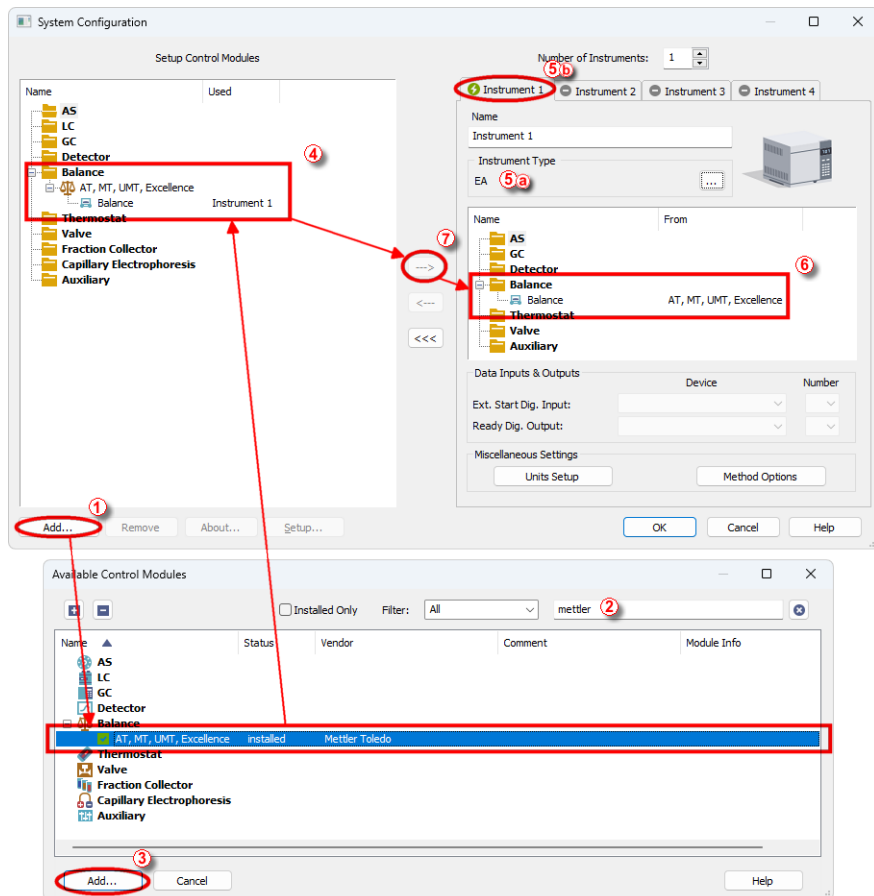

Fig. 2: How to add Mettler Balances
- Press the **Add** button ① (see Fig. 2 on pg. 4.) to invoke the *Available Control Modules* dialog.
- You can specify the searching filter ② to simplify the finding of the driver.
- Select the **Mettler Toledo** from the **Balance** group and press the **Add** ③ button.